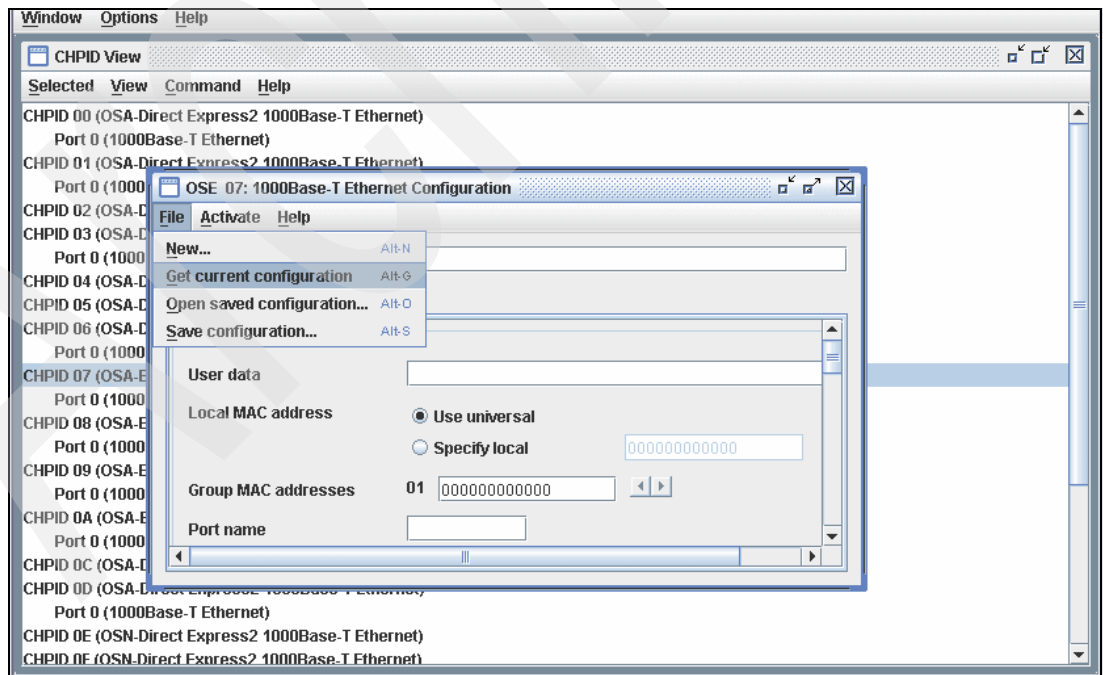

Figure 4-18 OSA/SF Workstation Interface - get current configuration
5. A CHPID configuration panel is displayed, with information fields left blank. From this panel, click **File** → **Get current configuration** (Figure 4-18).